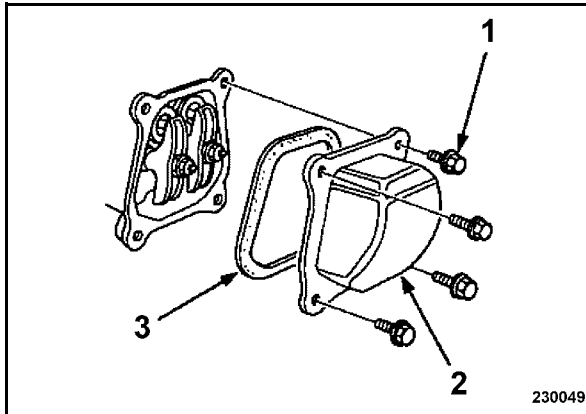

Fig. 49
- Loosen the screws (1) and take off the valve cover (2) (Fig. 49) with gasket (3).